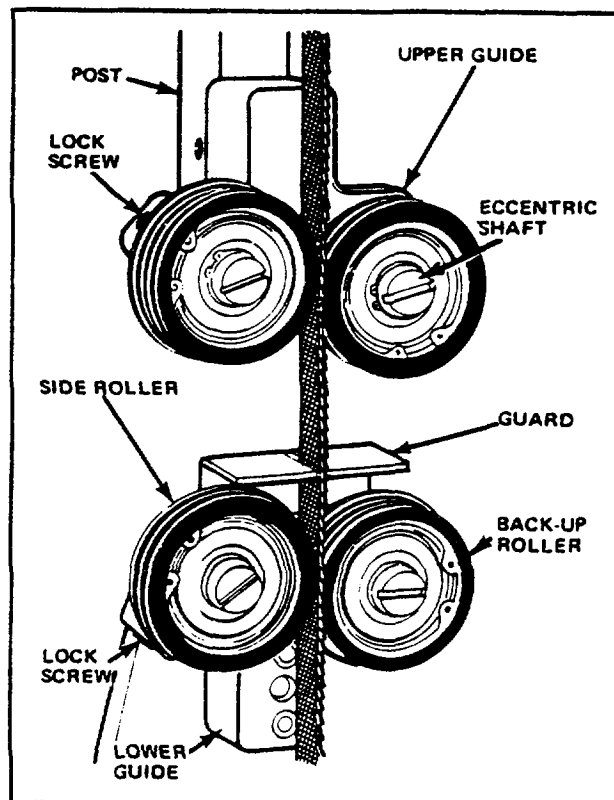

FIG. 27. ROLLER GUIDES ALLOW CONTINUOUS HIGH-SPEED SAWING.
- (1) Install guides on upper post and lower keeper block. See Fig. 27.
- (2) Select correct rollers for band width. Place one back-up roller and one side roller in each block.
- (3) Install band and adjust tension.
- (4) Bring rollers into contact with band by turning eccentric shaft with a screwdriver.